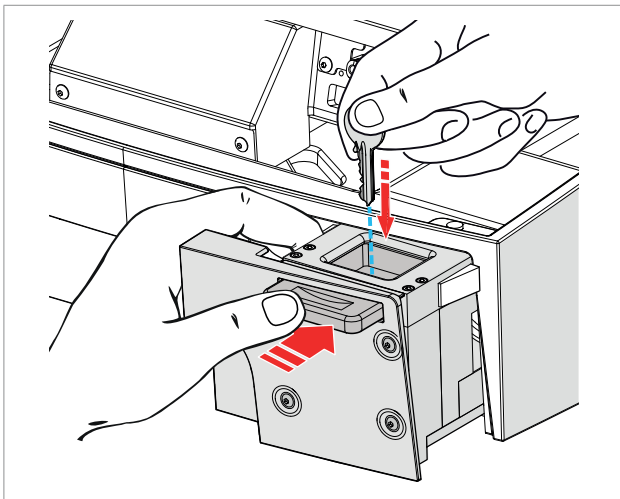

Fig. 62
- 3) Use the other hand to insert the key to be read (Fig. 62).